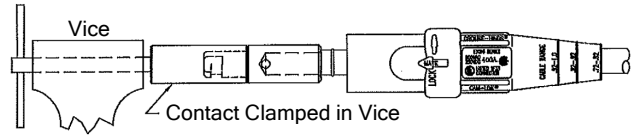

Figure 12
12. Push the Cam-Lok sleeve over the contact. See Figure 12.